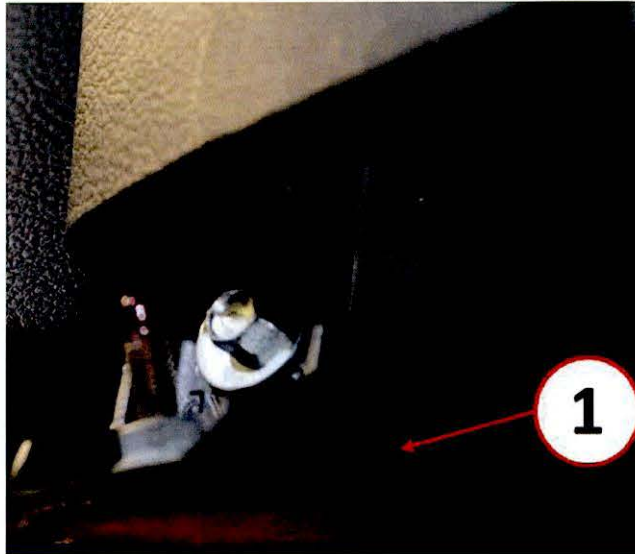

Fig. 4 Adjust Height
2. Pry up on instrument panel magnesium bracket to ensure clearance between the magnesium bracket and floor pan (Fig. 4).